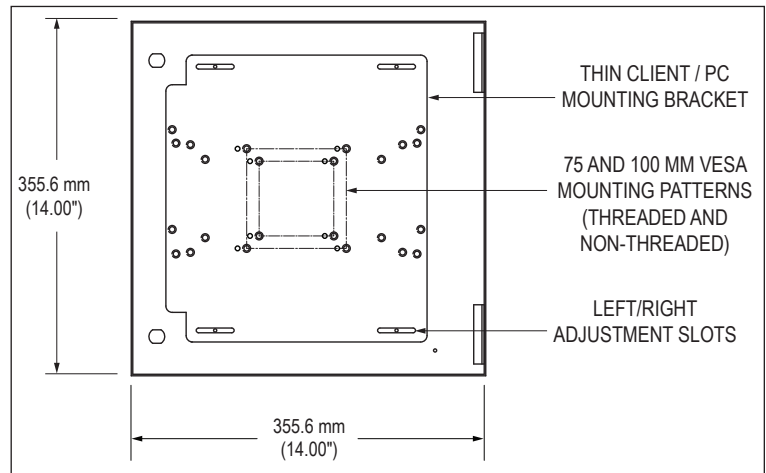

FIGURE 3 – INSIDE VIEW OF ACCESS DOOR
6. Refer to Figure 3. Install the Thin Client or PC onto the enclosure access door by using the provided mounting bracket holes or drilling custom hole locations into the mounting bracket.